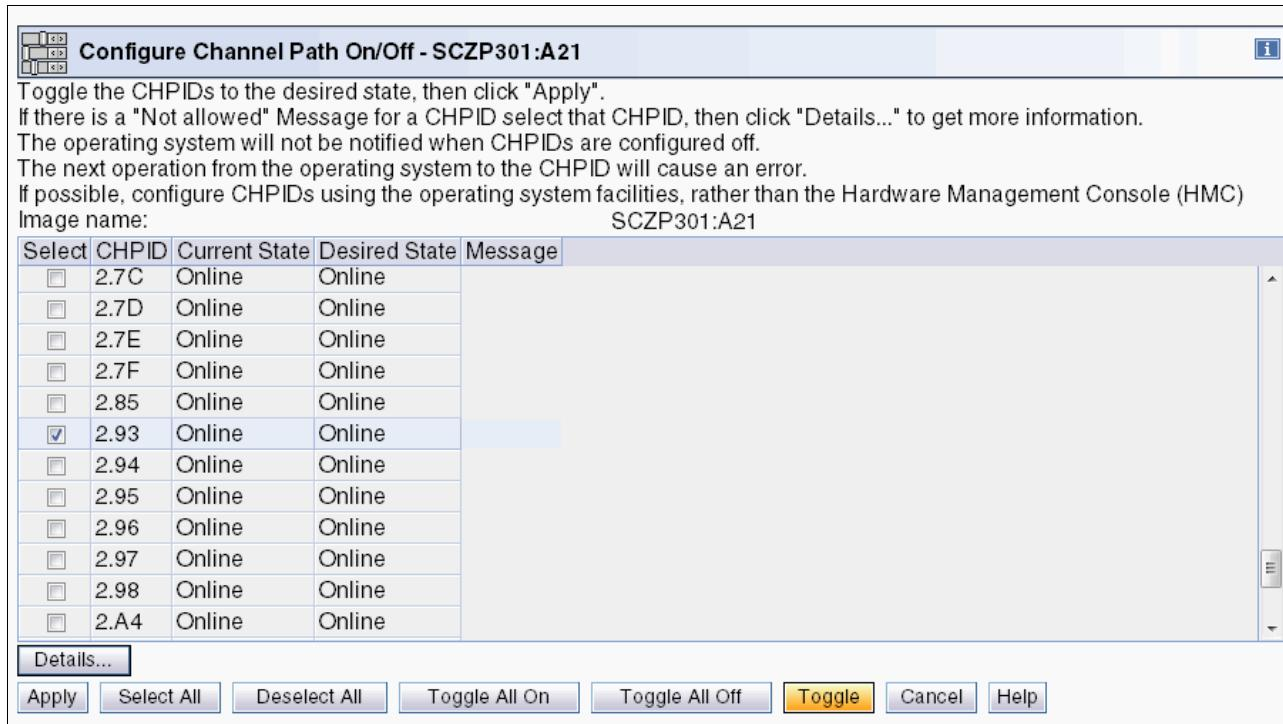

Figure 7-17 Toggling a CHPID offline
10. To change the state of the selected CHPID from offline to online, or online to offline, click the **Toggle** button at the bottom of the window, as shown in Figure 7-17.